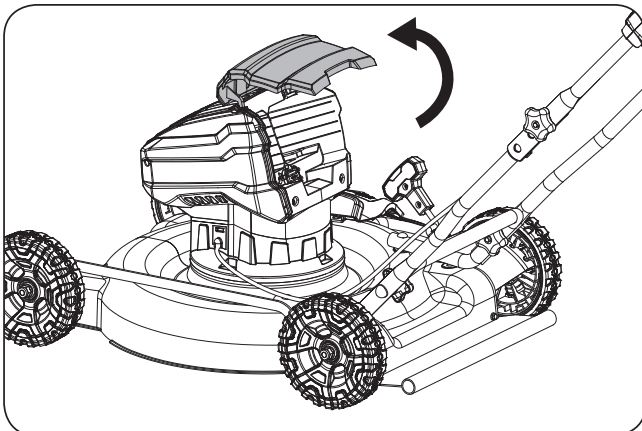

Figure 4
1. Lift and hold up the battery door. (See **Figure 4**)